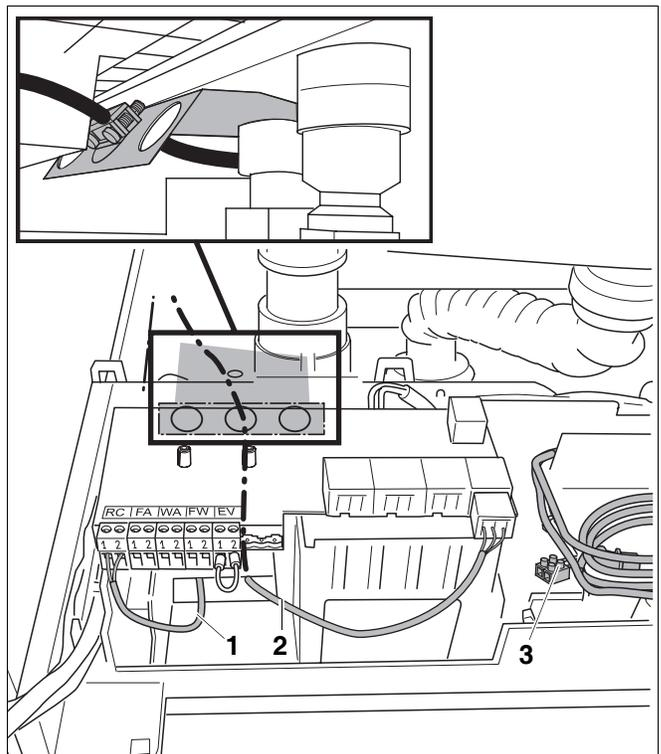

Fig. 30 Routing the cable
- Route the cable for the low-voltage connections through the opening on the left (fig. 30, pos. 1).
- Route the cable for the 120 VAC connections through the opening on the left (fig. 30, pos. 2).
- Route and attach the cable for the 120 VAC connections using the strain relief clamps (fig. 30, pos. 3).